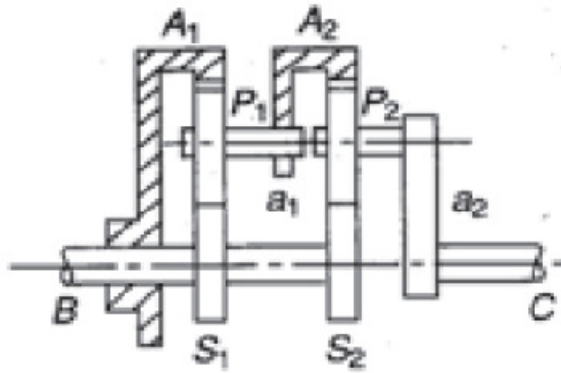

Fig.2
7. A compound gear is shown in Fig. 2. An input torque of 100 N-m is given to the shaft B at 900 r.p.m. The sun and planet gears are all of the same diameter and pitch. Determine the speed and torque of the output shaft C, if the efficiency is 96%. Also determine the torque required to hold stationary the annulus wheel A1 (14M)